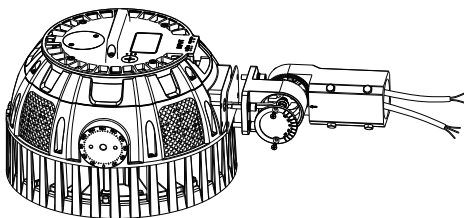

Figure 3
Step 1: Remove the bracket mounting screws on the fixture and run the wires through the bracket. (Figure 3)